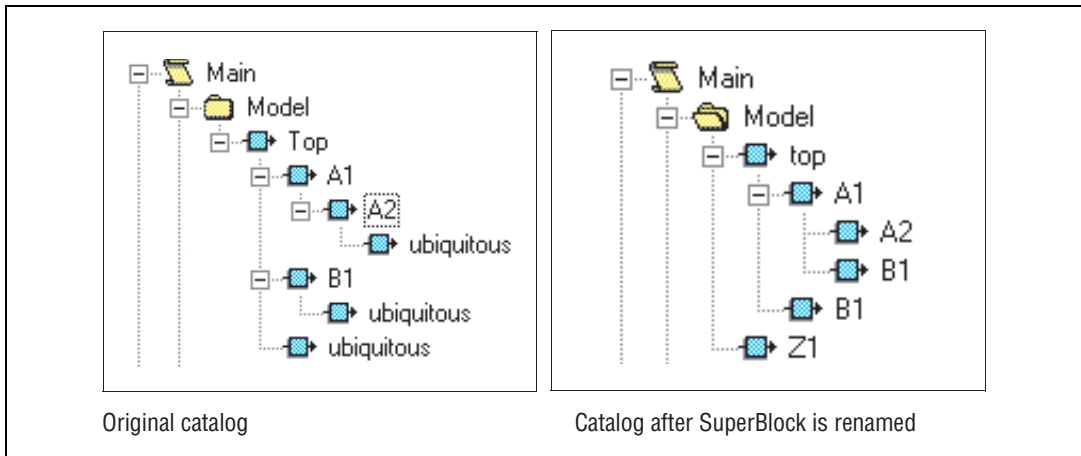

Figure 4-6. Renaming a SuperBlock Without Renaming References
- If you rename a SuperBlock and do not rename references, a copy of the original SuperBlock with the new name appears at the top-level of the SuperBlock hierarchy. All references to the original SuperBlock retain the old name but become undefined. They do not appear in the catalog. Figure 4-6 shows the effect of `ubiquitous` being renamed to `z1`. Although the undefined SuperBlocks do not appear in the catalog, they remain in the block diagram, and they are still named `ubiquitous`.